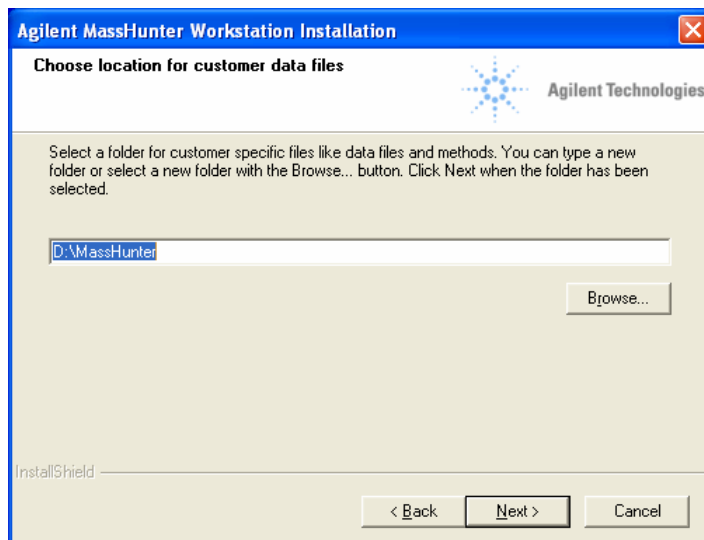

Figure 18 Choose location for customer data files screen
- In the Choose location for customer data files screen, check that the default of D:\MassHunter is displayed in the text box, then click **Next**. See Figure 18.